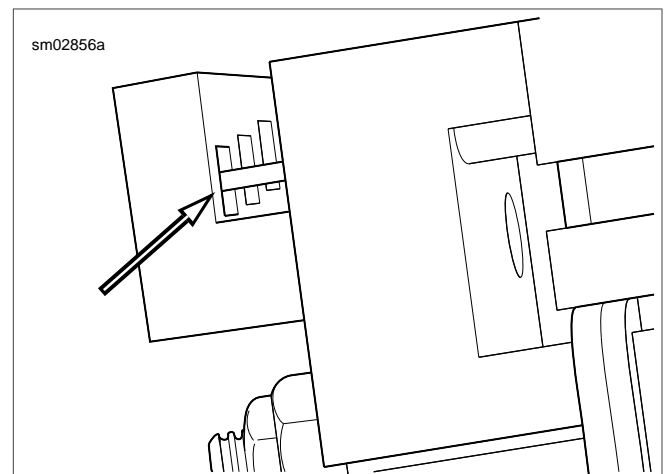

Figure A-54. Pin Terminal against Pin Locator Bar
- b. **Pin Terminal:** See Figure A-54. The tip of a pin terminal passes through the socket locator bar and stops in the notch in the face of the pin locator bar.